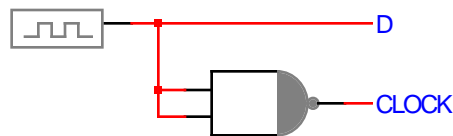

Figure 5 D and CLOCK inputs for measuring setup time
- Connect a 74LS00 gate as an inverter as shown in Figure 5. Connect the function generator output directly to the D input and the inverted clock signal to the CLOCK input of your D flip-flop. Measure the set-up time on the scope by displaying the D and CLOCK inputs on the two channels. The setup time is measured from the point the D input signal crosses 1.5 V to the point where the rising clock edge crosses 1.5 V. Compare the measured setup time with the setup time calculated in terms of propagation delays in part b.
- Check the Q output with the D and CLOCK signals generated as shown in Figure 5. What output would you expect in the ideal case of 0 setup time? Is this the actual output value or was there a setup time violation which caused a different value to be latched. If the delay of your 74LS00 is small enough, you should be able to observe a setup time violation.